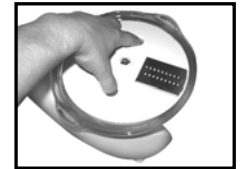

Fig. 14
- Using the finger holes in the blade holder, fit it over the spindle and press firmly into place as indicated. (Fig. 14)